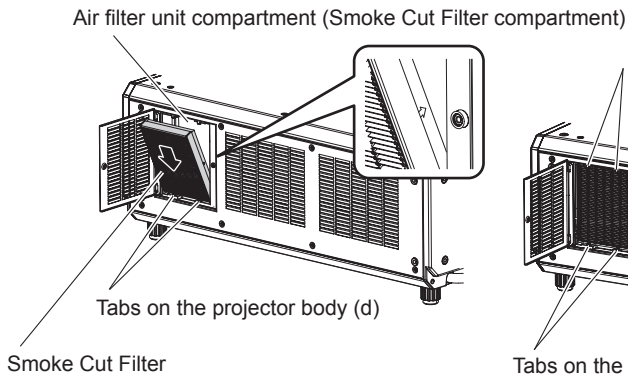
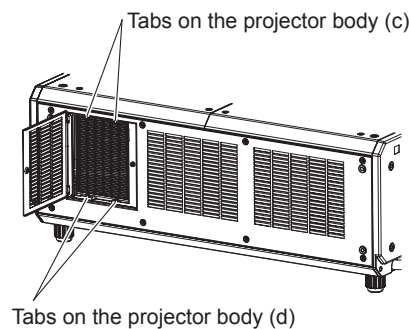

Fig. 1
Fig. 2
- Insert the Smoke Cut Filter in the direction of the arrow indicated on the Smoke Cut Filter into the air filter unit compartment (Smoke Cut Filter compartment) of the projector body. **(Fig. 1)**
- i) Hook the Smoke Cut Filter frame at the bottom side to the tabs on the air filter unit compartment (Smoke Cut Filter compartment) of the projector body (d). **(Fig. 1)**
- ii) While lightly pressing inward as described with the arrow **(Fig. 1)**, hook the center area of the Smoke Cut Filter frame at the top side to the tabs on the air filter unit compartment (Smoke Cut Filter compartment) of the projector body (c). **(Fig. 2)**